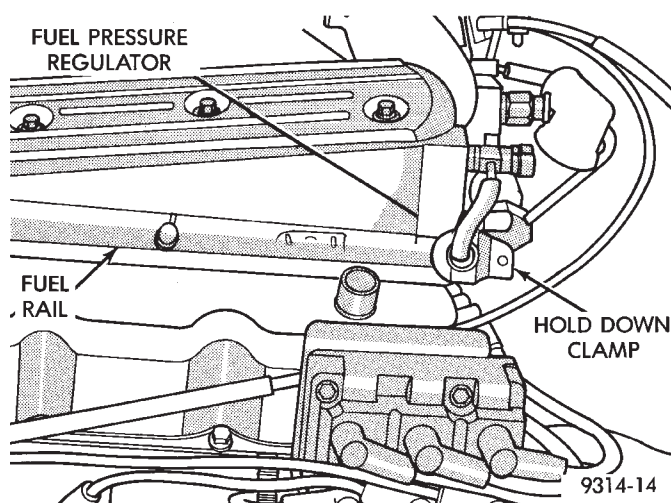
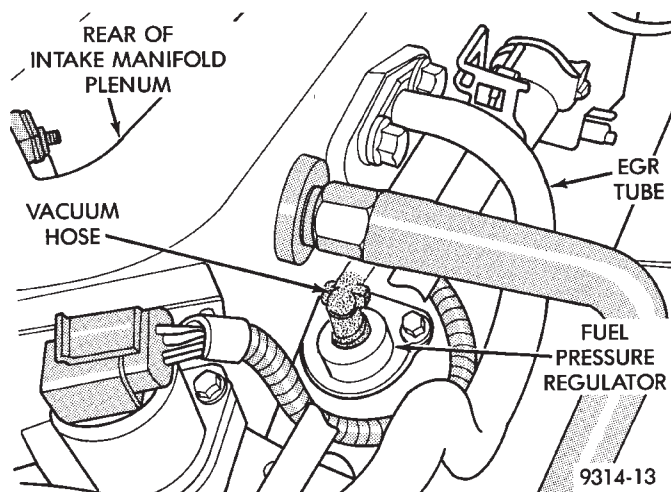

Fig. 12 Fuel Pressure Regulator—3.3L Engine
Fig. 13 Fuel Pressure Regulator—3.5L Engine
(11) Ensure the vacuum hose is attached to the fuel pressure regulator (Fig. 12 or Fig. 13). Check the hose for cracks or leaks.